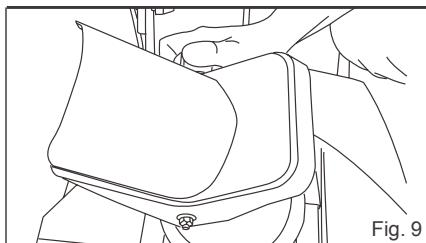

Fig. 9
3. Raise or lower the chute deflector to the desired height of the snow stream and tighten the knob (Fig.9).